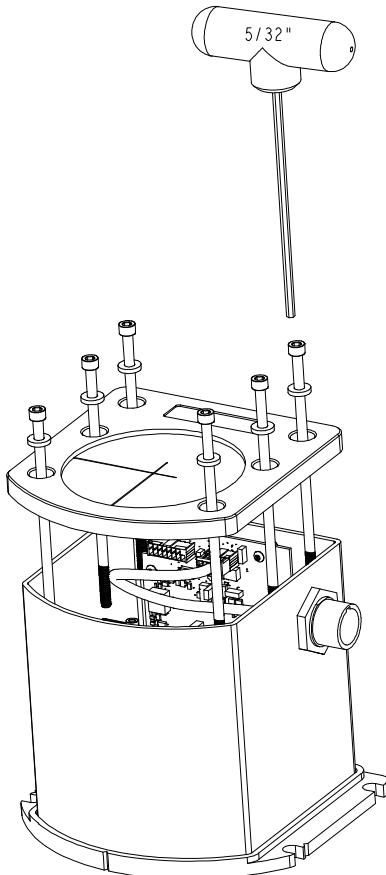
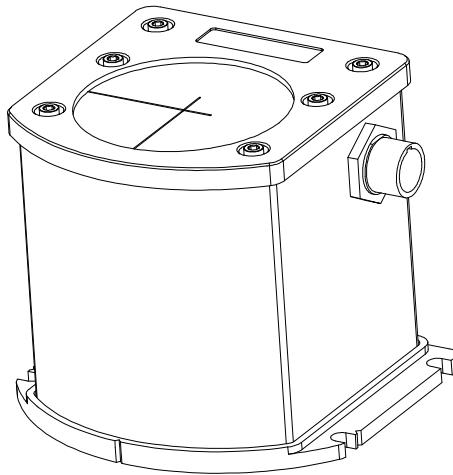

Figure 76: Bolts and Hex Key
Figure 81: LN-200 SPAN IMU
1. Remove the top cover's six bolts using a hex key, as shown in *Figure 76*:
Use a hex key to align the long bolts with the threaded holes in the base, as shown in *Figure 76* on page 378. Apply threadlock to threads. Finger tighten the 6 bolts then torque them in a cross pattern to 12 in-lbs. The fully assembled IMU enclosure is shown in *Figure 81*.